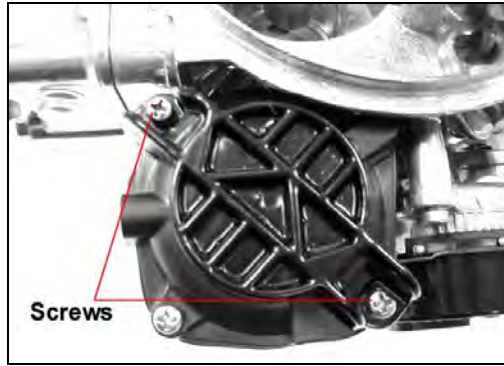

Figure 17
8. Tighten the two Phillips screws securely and reinstall the air cleaner, as shown in Figure 17.